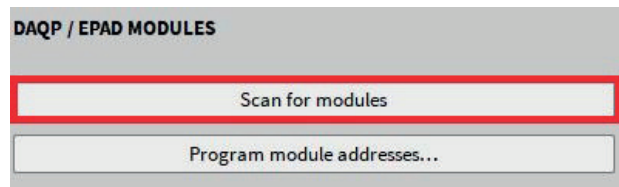

Figure 4: Scan for modules button
- > Press the *Scan for modules* button (see Figure 4). The system will scan the selected Serial Port for any present EPAD2-modules. The status can be seen in the lower right corner of the software.